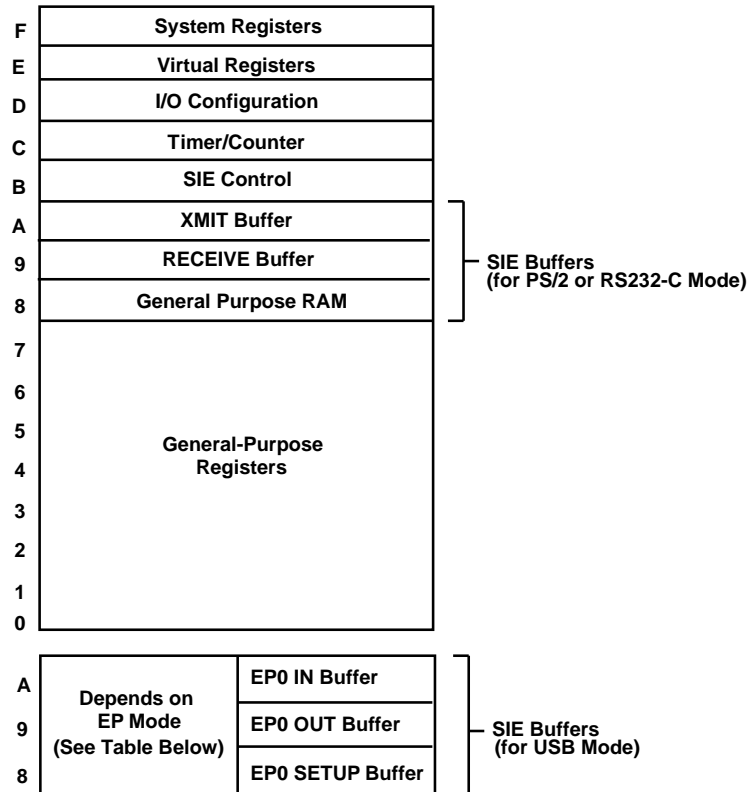

Figure 12. Register Files
**Register File.** The register file consists of the following: 160 General-Purpose Registers in group 0–7, SIE Buffers in group 8–A, SIE Control in group B, Timer/Counters in group C, Configuration Registers in group D, Virtual Registers in group E and System Registers in Group F (Figure 12).